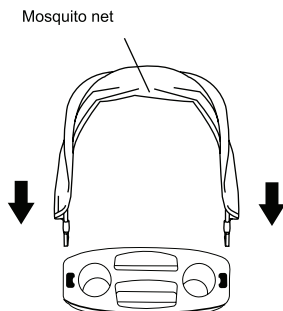

Fig. 6a
- 6) • **To install the canopy:** Add the canopy frame into the designated slots located on the child tray (Fig. 6a).